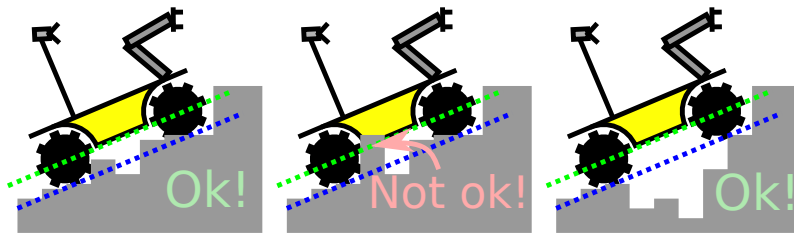

Figure 8: Some collision configuration.
- Check that there are no point within the robot footprint that goes higher than the ground clearance of the robot which is 15cm. See figure 8 for a few example of good and bad configurations.